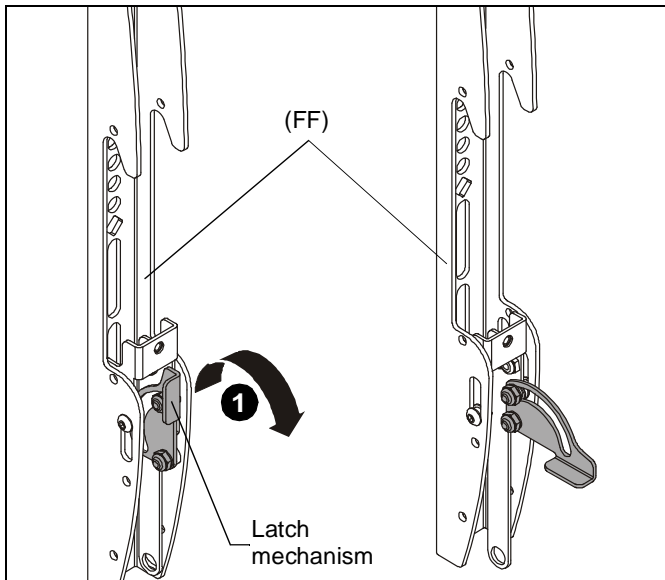

Figure 5
1. Lower the latch mechanism on all interface brackets (FF). (See Figure 5)
1. Ensure that the latch mechanisms on interface brackets (FF) are already lowered. (See Figure 5)